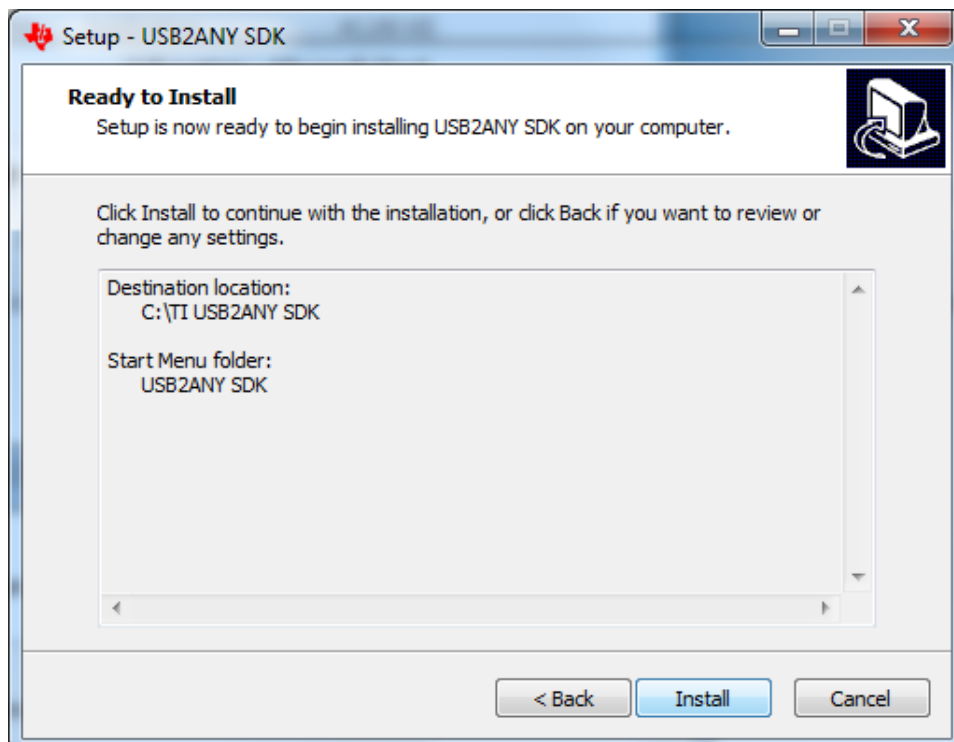

Figure 26. USB2ANY Start Installation
- The *Ready to Install* window is displayed next as shown in Figure 26. Click the *Install* button to begin the USB2ANY installation.